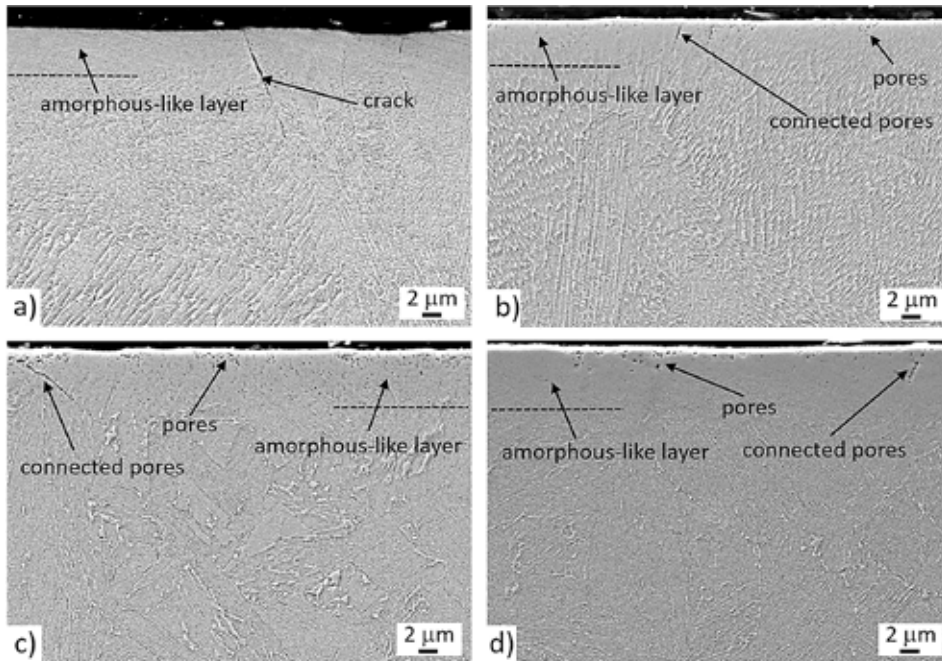
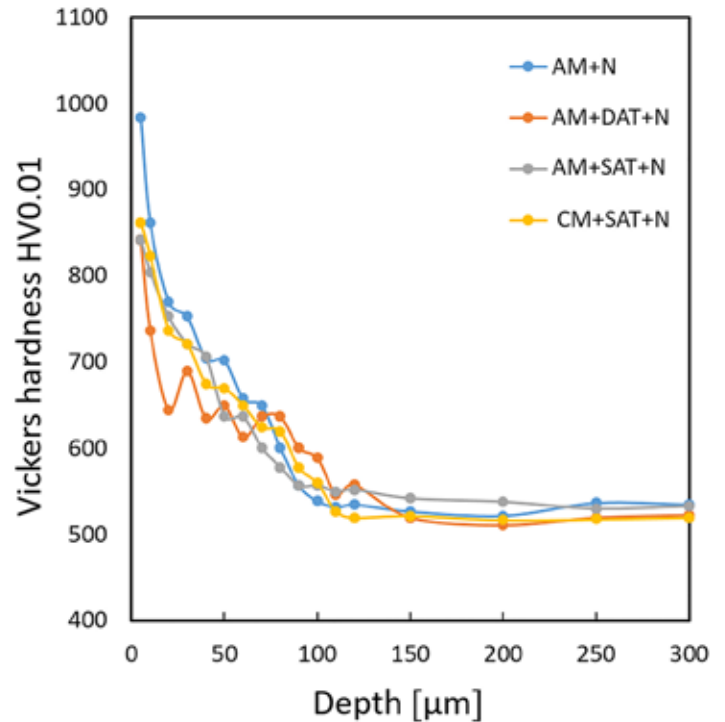

Figure 3: SE images of nitride layer for the investigated samples: (a) AM + N, (b) AM + DAT + N, (c) AM + SAT + N, (d) CM + SAT + N; etched in Nital.
Figure 6: Microhardness depth profiles of: (a) AM + N, (b) AM + DAT + N, (c) AM + SAT + N and (d) CM + SAT + N samples.
Figure 3 presents the SEM image of the upper part of the nitrided zone (~ 30 μm). The thickness of the top, amorphous-like layer is approximately 5–10 μm , although it seems to be slightly thicker in the CM + DAT + N sample and most probably corresponding to the compound layer, which is very hard and prone to cracks. Higher magnification images of top most nitride layer can be found in the Supplementary Information with the appropriate Figure S1. In the sample AM + N (Figure 3a) small cracks are present in the compound layer, which can be assigned to the high concentration of internal stresses in the as-built AM material [48,49]. After aging, no cracks are visible in the
The inset in Figure 5a schematically shows the EDS line path through the nitride layer, which was similar for all four samples. In all the samples, the nitrogen signal correlates well with the depth of the nitride layer, which is 115–130 μm , as seen from the LM micrographs. The content of nitrogen starts to increase in the top 20 μm , which corresponds well with the compound layer visible in the SEM images (Figure 3) and the hardness depth profile (Figure 6). The Ti, Mo, and Co values are similar and almost constant in all the samples. The signals for nickel show a high scatter, assigned to the redistribution of the nickel due to the higher solubility of the nickel
Bulk hardness measurements of the samples before nitriding show that the as-built sample (AM) has a lower hardness of 39 HRC (387 equivalent HV), compared to the heat-treated ones (AM + DAT, AM + SAT and CM + SAT) with a hardness of 49–50 HRC (500–515 equivalent HV). The AM sample shows the lowest hardness value because the precipitates do not form (or at least not completely) during the SLM process [14]. The sample AM + DAT contains the largest amount of austenite; therefore, a lower hardness value would be expected. However, the dislocation cellular structure is not completely removed during aging, and this contributes to the higher hardness value, which, in the end, gives similar hardness values to all the heat-treated samples. The Vickers micro-hardness depth profiles of the nitrided layer for the AM + N, AM + DAT + N, AM + SAT + N, and CM + SAT + N samples are shown in Figure 6. The bulk hard-
ness for all the nitrided samples is very similar, i.e., in the range of 520 HV0.01. However, slightly lower values as well as a larger scatter within the nitride layer can be observed for the AM + DAT sample, which is attributed to the largest amount of austenite phase in the microstructure. It also shows a more pronounced drop in the surface hardness, which agrees with the higher austenite content and the slightly thinner compound layer, as visible from the SEM cross-section micrographs (Figure 3). In terms of the surface hardness of the nitride layer, the AM + N sample shows the highest hardness of the compound layer, around 1,150 ± 35 HV0.01, while the hardness of the other three samples is about 850 ± 40 HV0.01. The as-built sample has no precipitates, which corresponds to the lowest bulk hardness value. However, during nitriding, both processes (the formation of precipitates and nitrides) take place and increases the hardness to the highest value for all the studied samples. The higher hardness is also due to the cellular structure, with its high dislocation density and the nano-oxide particles pinning the dislocations [46]. On the other hand, in all the samples, the hardness decreases with the depth, reaching the value of the base material at a depth of approximately 120 μm, correlating well with the LM images (Figure 1).